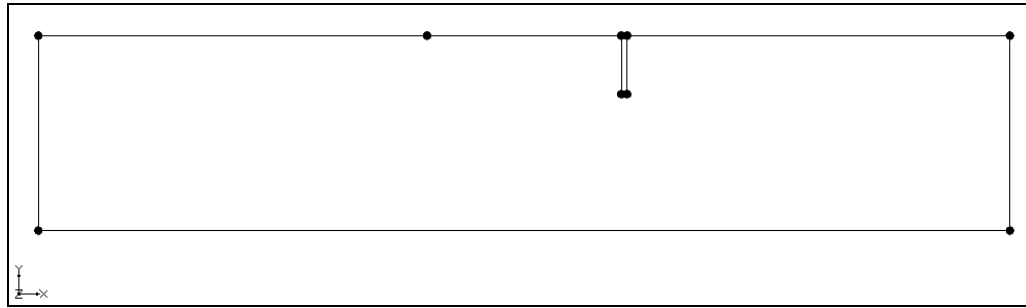

Figure 8 Final view with all the arcs created
8. Click the **Frame Image**  macro. The model should now look like Figure 8.